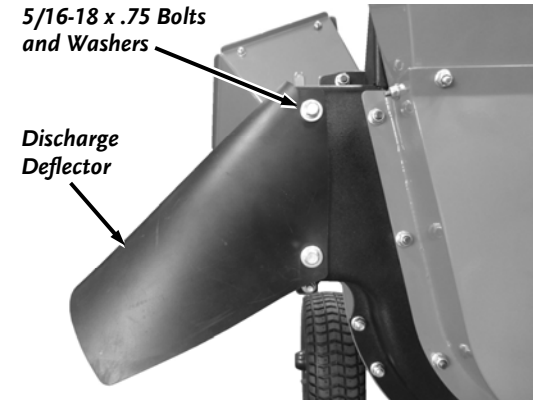

Figure 10
1. Secure one side of the Discharge Guard at the two mounting locations with 5/16-18 x .75 Bolts and Washers using a 1/2" Wrench (**Figure 10**).